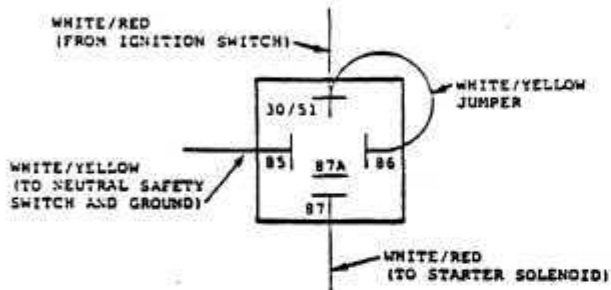

FIGURE 1
3. Disconnect the white/yellow pigtail jumper wire from its relay terminal (#86). Cut and move the jumper from its white/red wire connector (Figure 1).
It is important to positively determine that the fan fail module is defective prior to installing this link wire assembly. A check should be made on the cooling fans to ensure they have not seized. The entire engine cooling fan circuit and components must also be checked for continuity and operation with special attention to all connections (Figure 1).